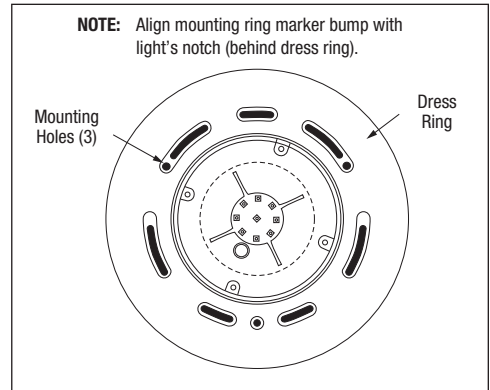

Figure 3. SLX Concrete Installation
2. Using the three screws (from kit P/N 13529), attach the light and dress ring to the niche using a manual screw driver. Do not over-tighten, as using power tools may cause damage. Before filling the pool check the light is functioning by switching it on for a few seconds. See *Figure 3*.